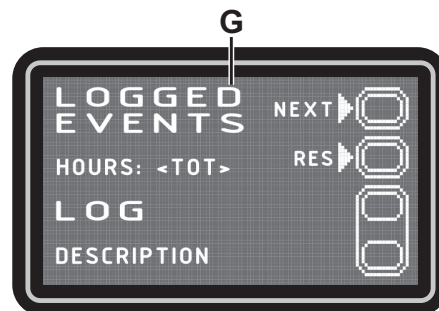

Figure 9
**Alarms log screen (G, Fig. 9)**